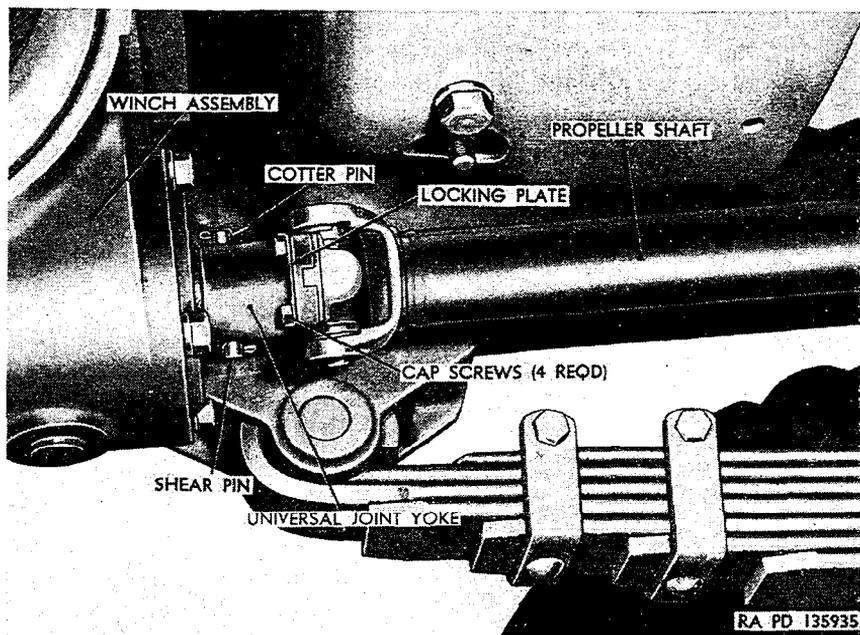

Figure 272. Bottom view of front winch and propeller shaft.
- (2) *Winch drive.* Power for operating the winch is supplied by the truck engine through a power-take-off (par. 208a(2) or (3)) which is connected to the winch by a propeller shaft (fig. 272). The propeller shaft is secured to the winch drive shaft by a shear pin which prevents damage to the winch resulting from overloading.
- (1) Attach hoisting equipment to winch and hoist until slack is just removed from chain or cable.
- (2) Separate propeller-shaft front universal joint from yoke (fig. 272) on winch drive shaft (par. 211a(1)).
- (4) Connect propeller-shaft front universal joint to yoke (fig. 272) on winch drive shaft (par. 211b(1) and (2)).
- (5) Remove hoisting equipment from winch.
c. Shear Pin Replacement (fig. 272). Turn universal joint yoke on winch drive shaft and aline shear pin holes in yoke with hole through shaft. Drive broken part of shear pin from drive shaft. Insert new aluminum alloy shear pin in holes in yoke and drive shaft, and install cotter pin in each end of shear pin.